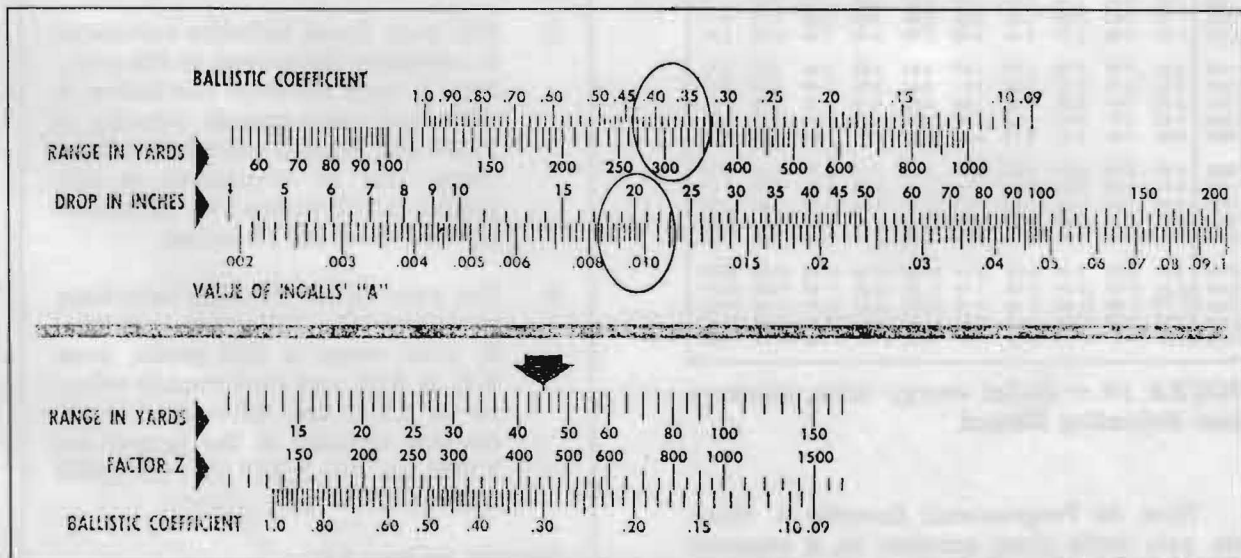

FIGURE 16 — Drop is 20.8 inches.
Again line up the B.C. (.387) with the range in yards (300). Find the Value of Ingalls “A” (.01) in the scale at the bottom of the opening. Above this figure is the mark corresponding to a drop of 20.8 inches for your 150-grain bullet at 300 yards (see Figure 16). As you see, computing the drop for any bullet at any reasonable range can be done in moments once the B.C. of that bullet and its velocity are known.